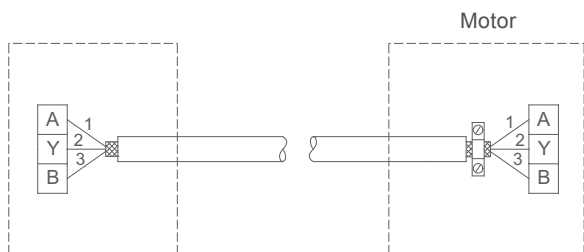

Fig. 24 Connection with screened 3-core cable
- If the unit has no cable clamp as shown in fig. 24, leave the screen unconnected at this end.